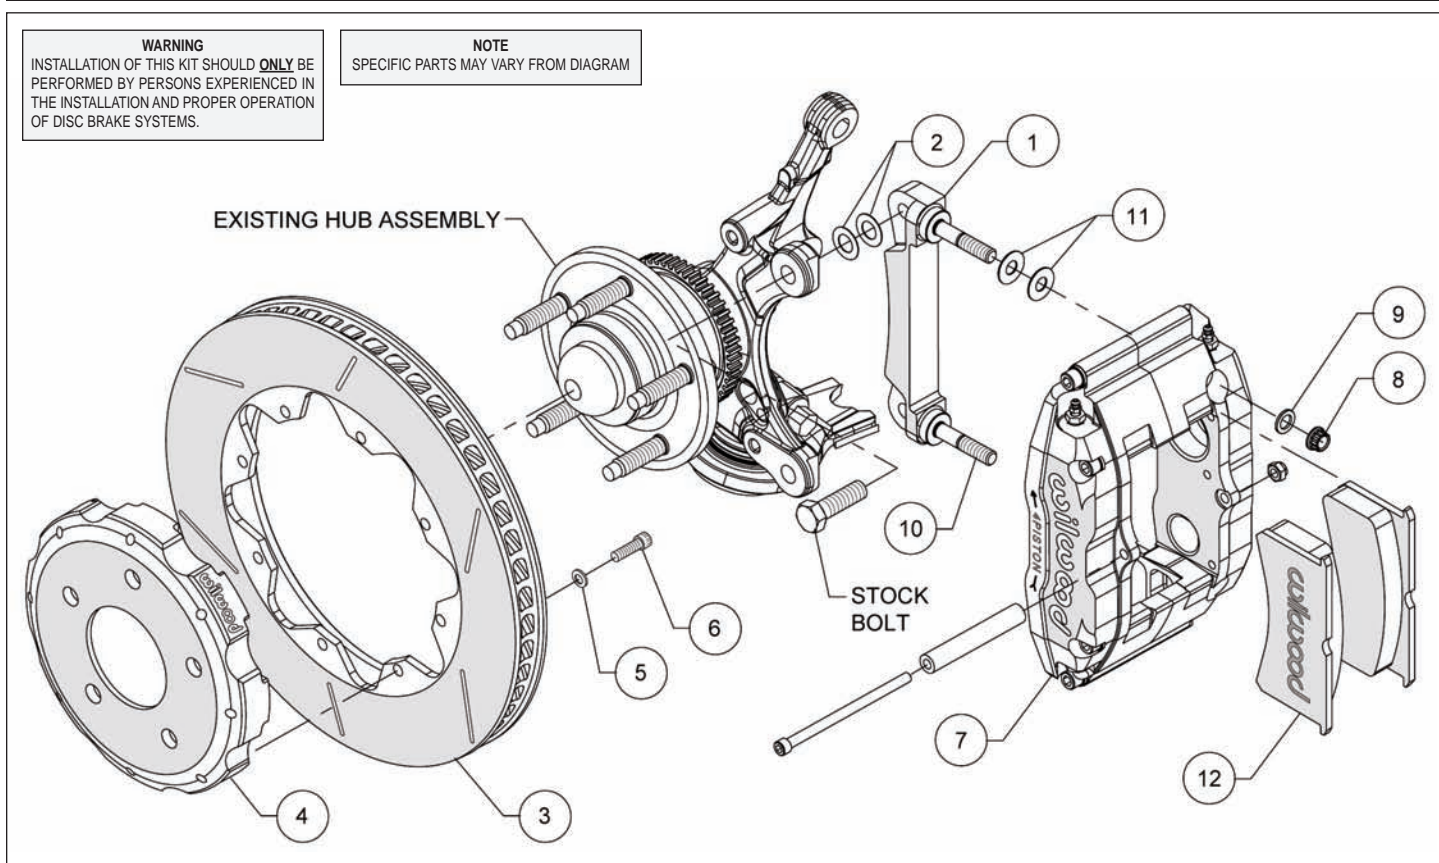
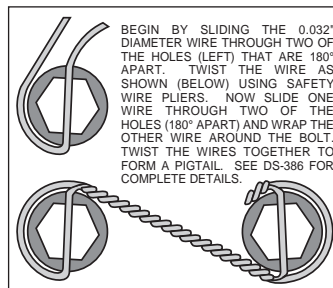

Figure 1. Typical Installation Configuration
Figure 4. Safety Wire Diagram
**Assembly Instructions** (numbers in parenthesis refer to the parts list and Figure 1 on the preceding pages):
- The caliper mount bracket (1) should initially be installed with clean, dry threads on the mounting bolts. Orient the bracket as shown in Figure 1 and Photo 1, then install using OEM mounting bolts. Initially place two .020" thick shims (2) on each bolt between the bracket and upright, Figure 1. Temporarily tighten the mounting bolts. **NOTE:** *The bracket must fit squarely against the mount bosses on the upright.* Inspect for interference from casting irregularities, machining ridges, burrs, etc. Later, after the caliper alignment has been checked, the mount bolts will be secured using red *Loctite*® 271.
- Orient the rotor (3) and the hat (4) as shown in Figure 1 and Photo 2. Attach rotor to hat using bolts (6) and washers (5). Using an alternating sequence, apply red *Loctite*® 271 to the threads, and torque to 25 ft-lbs. Safety wire bolts using standard 0.032 inch diameter stainless steel safety wire as shown in Figure 4.
- NOTE:** *This kit contains distinct right and left hand calipers that must be mounted in a specific direction, as described below.* Lubricate the caliper mounting studs (10) with lightweight oil. Initially place two .035" thick shims (11) on each stud between the caliper and the bracket, as shown in Figure 1 and Photo 3. With the bleed screws pointing up, mount the caliper (7) onto the bracket (1) using lock nuts (8) and washers (9), Figure 1. Temporarily tighten the lock nuts. Ensure that the caliper is mounted so the largest pistons are at the rotor exit end of the caliper, in relation to the direction of the rotor. View the rotor through the top opening of the caliper. The rotor should be centered in the caliper, Photo 4. If not, adjust by adding or subtracting shims (2) between the bracket and the upright. Always use the same amount of shims on each of the two mounting bolts. Once the caliper alignment is correct, remove the bracket mounting bolts one at a time, apply red *Loctite*® 271 to the threads, and torque to OEM manufacturer specifications.